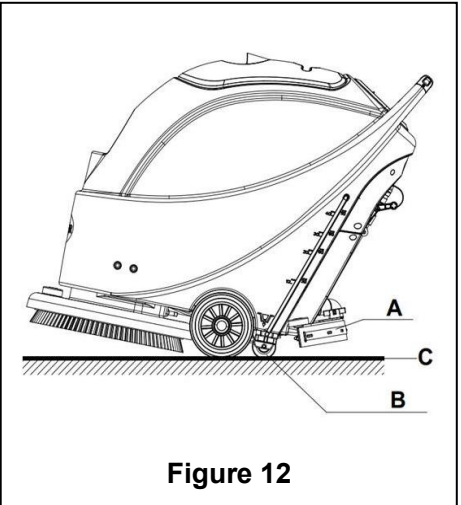

Figure 12
8. Release the safety switch (1) to turn off the brush/pad-holder and solenoid valve.
9. 9. Press the Vacuum pump switch (42) to the "O" position, and the Vacuum pump will delay for 5 seconds before stopping work.
10. 10. Press the water flow volume control switch (44) to the "O" position to completely turn off the work of solenoid valve.
11. Press the power switch (41) to the "O" position.
12. Use the squeegee lifting handle (14) to lift the squeegee.
13. Grasp the handlebar (2) and gently tilt the machine backward until the guide wheel (B) touches the floor. See Figure 12.